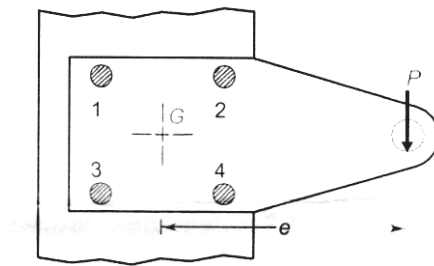

Figure 5
- b)** The structural connection shown in Fig. 5 is subjected to an eccentric force P of 10 kN with an eccentricity of 500 mm from the CG of the bolts. The centre distance between bolts I and 2 is 200 mm, and the centre distance between bolts I and 3 is 150 mm. All the bolts are identical. The bolts are made from plain carbon steel 30C8 ($S_{yt} = 400 \text{ N/mm}^2$) and the factor of safety is 2.5. Determine the size of the bolts. [12]